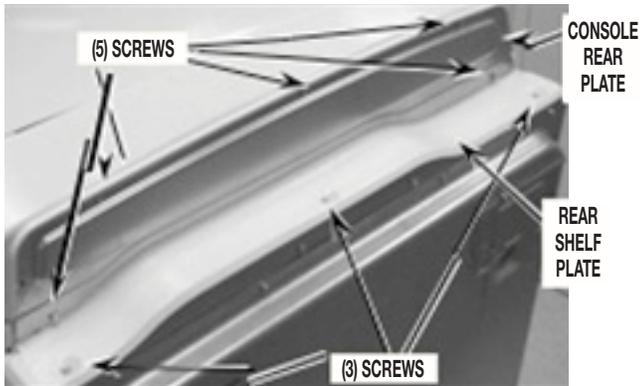

FIGURE 1
1. Remove console rear plate and rear shelf plate by removing a total of eight (8) screws. See *Figure 1*.